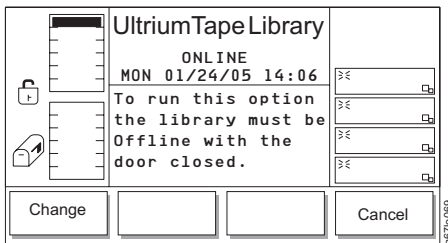

Figure 4-167. Library Submenu
2. Press the button below the **Library** softkey. The Library Submenu displays (see Figure 4-167).